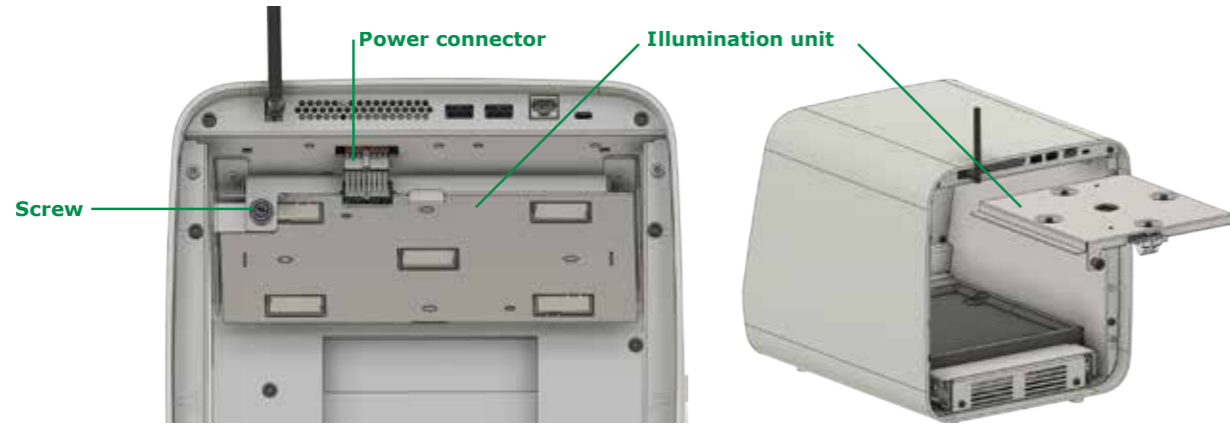

Figure 10.3: Replacing the illumination unit
- 6) If one or all light sources are not working, or the illumination appears to be dark on one side, the illumination unit might need to be replaced (see section 10.4). In case a replaced illumination unit remains dark after the replacement procedure, verify that the unit's power connector is plugged in (see figure 10.3), and the back cover **B7** has been correctly closed.
- 5) Carefully unplug the cable marked in figure 10.3 as 'Power connector'.